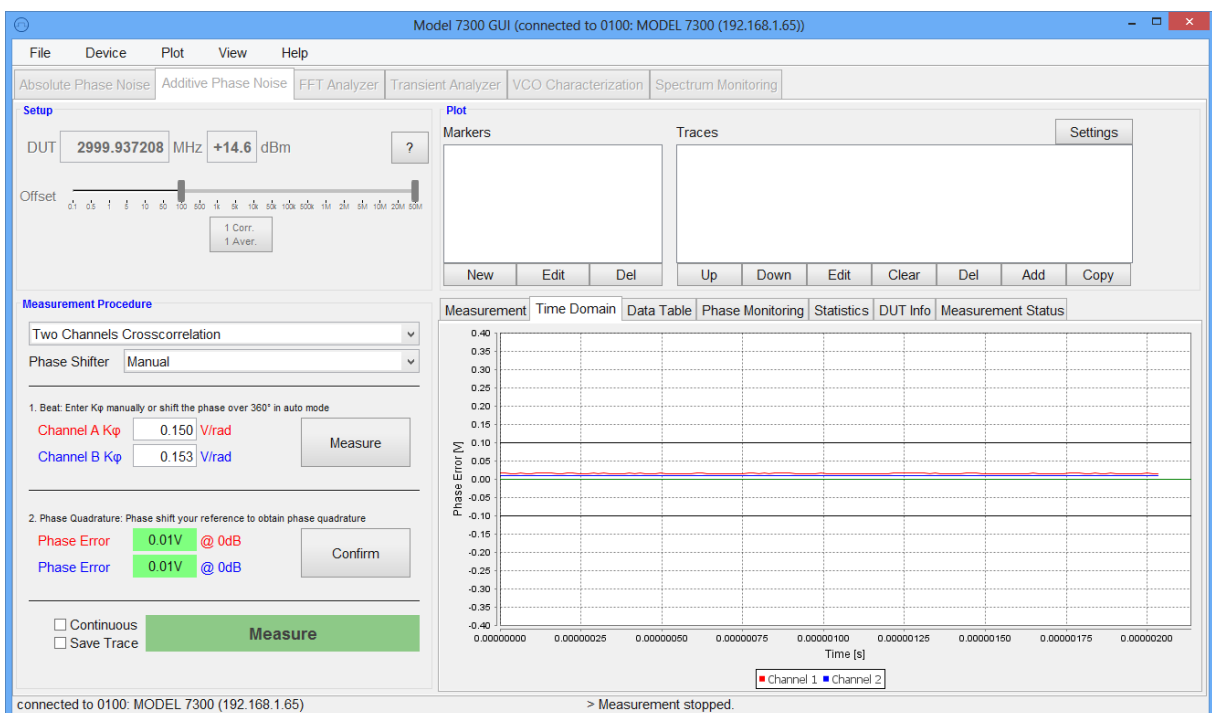

Figure 16 Additive phase noise measurement tab during step 2, adjusting the phase to quadrature.
2. Once the phase detector constants are known, the phases must be adjusted to obtain phase quadrature. Start this step by pressing the “Measure” button in step 2. Now, the phase difference between signal pairs at RF IN and REF IN (1 and 2) must be adjusted using the external phase shifters to achieve approximate phase quadrature (90 degree phase difference) as shown in Figure 16. The GUI shows a tolerance window of ± 3 degrees. In case “Analog Tune” is selected and voltage controlled phase shifters are used, this step is performed automatically by the instrument and can be omitted.